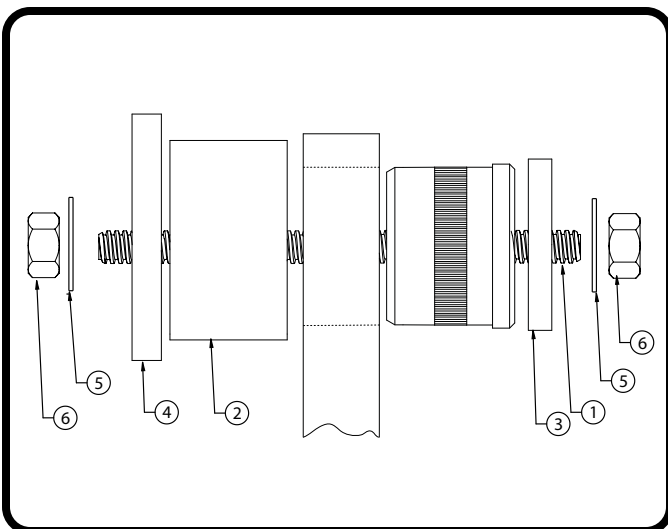

Figure 4
4. Insert the 1/2"-10 x 8" threaded rod (1) into the new bushing and then install the 1 7/8" ID x 1" sleeve (2) on the opposite side of the bushing. This sleeve will be centered over the bushing hole. Install the 1.825" washer (3) on the stud (on the bushing side). Install the 2 5/8" flat-sided washer followed by a 1/2" washer (5) and nut (6) on each end of the threaded rod. See Figure 4 below.